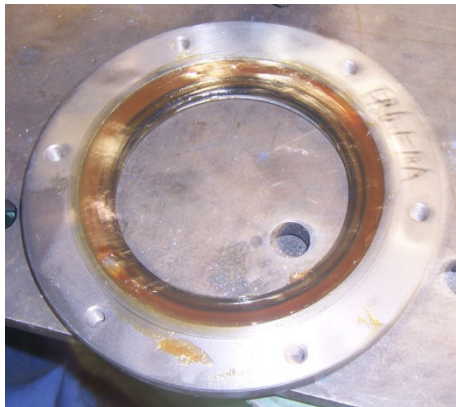

Figure 84 Apply grease to the Inner Cover
1. Clean the main shaft; put bearing grease in the Inner Cover and then install it in the main shaft. See Figure 84.